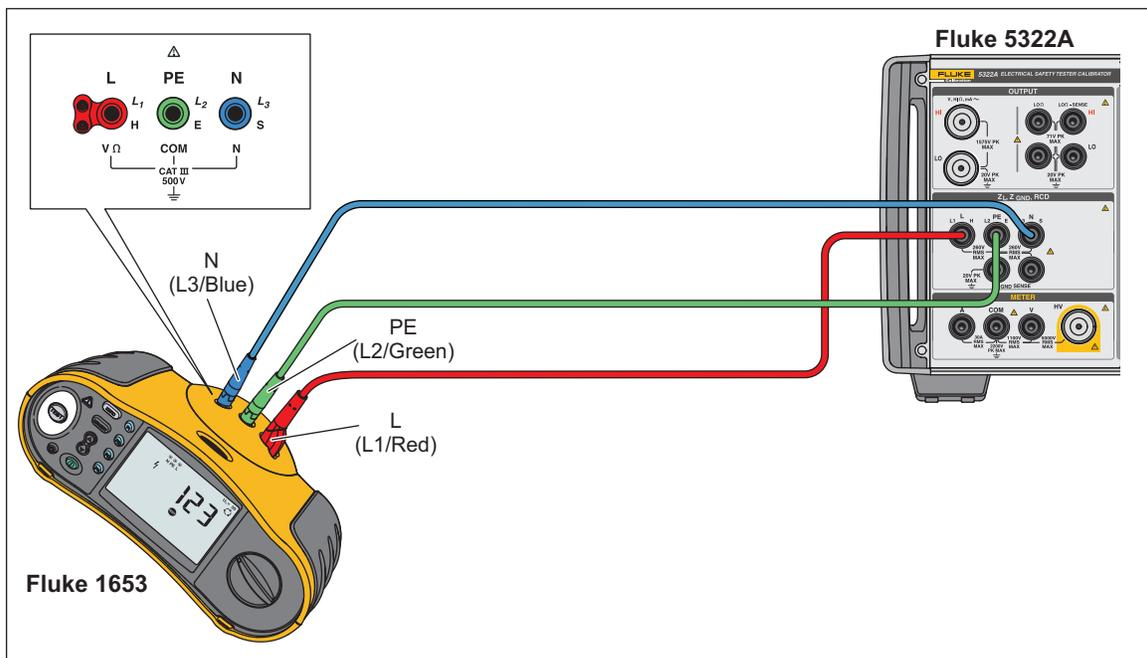

Figure 49. RCD Trip Time and Trip Current Calibration
2. Connect the DUT to the Product's **L**, **PE**, and **N** terminals as in Figure 49.
1. Connect the DUT to the Product's **L**, **PE**, and **N** terminals as shown in Figure 49.
2. Connect the DUT to the Product's **L**, **PE**, and **N** terminals as shown in Figure 49.